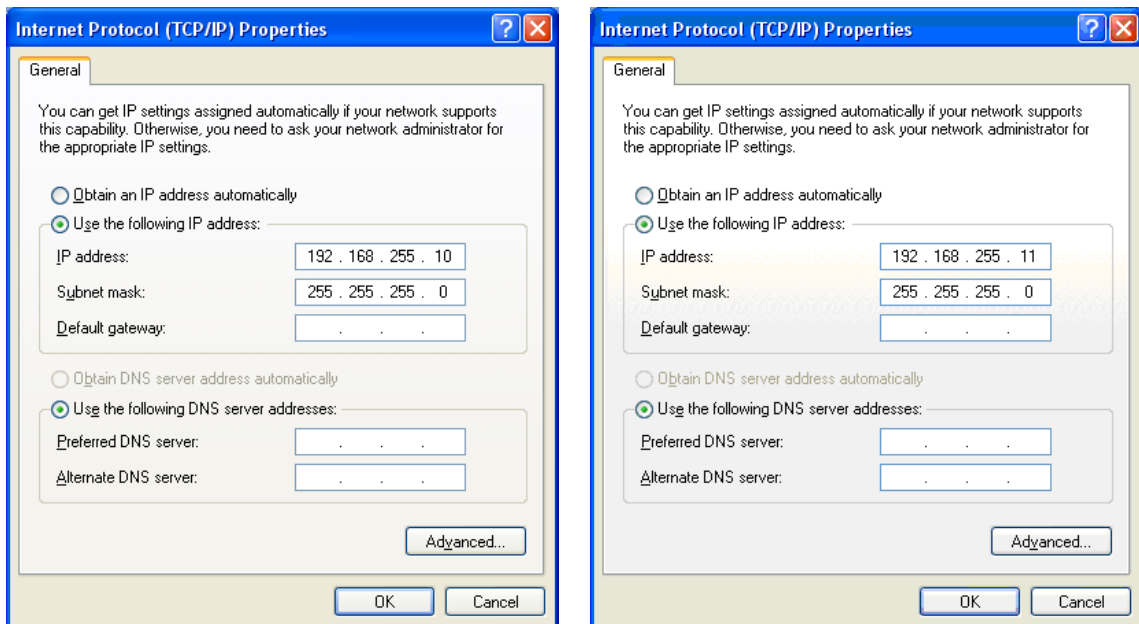

Figure 4-12. Setting PC’s IP
1. As shown in Figure 4-12, the PC’s is “192.168.255.10” and “192.168.255.11”.